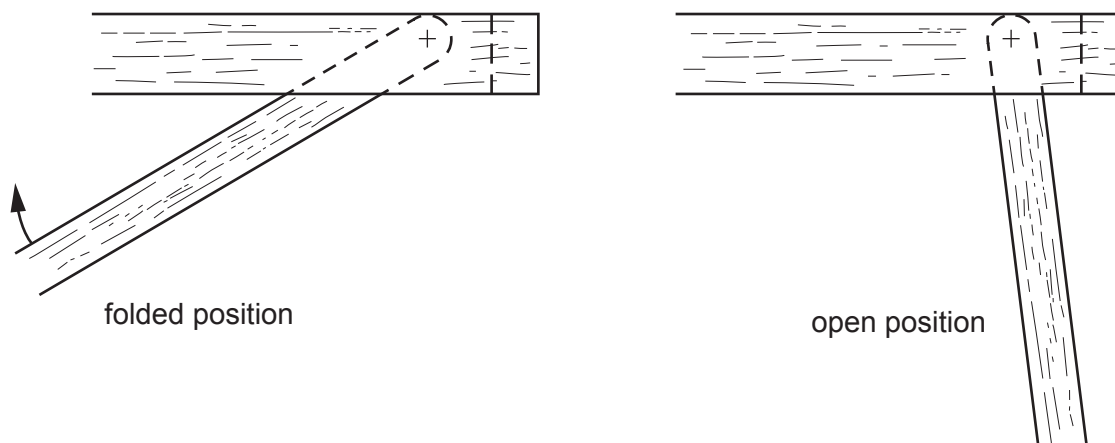

Fig. 13.4
- (f) Fig. 13.4 shows one of the legs of the tray in both an open and folded position.
Use sketches and notes to show how the leg could be made to fold underneath in the direction of the arrow shown in Fig. 13.4. Name any materials and fittings used.